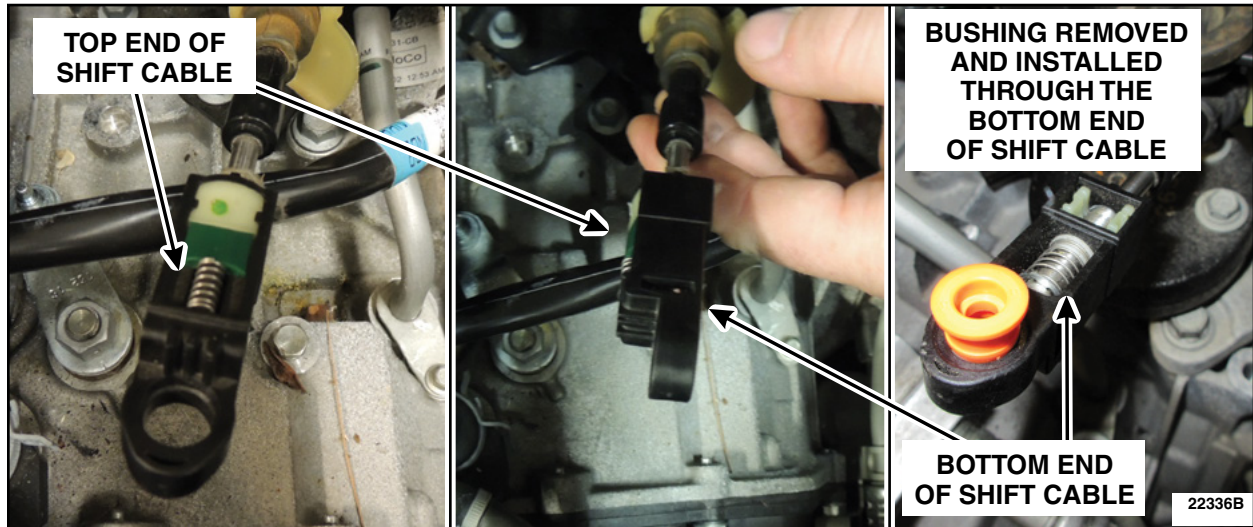

FIGURE 5
NOTE: Selector Lever Cable Bushing Replacement/Orientation. See Figure 5.
- Using a 5mm and a 15mm socket with Straight Jaw Adjustable pliers the bushing can be pressed out of the shifter cable end. The 5mm socket will fit into the small part of the bushing on top, the 15mm will go against the bottom of the shifter cable end, make sure to have socket centered with the bushing to allow clearance of the bushing shoulder as it is being pressed out. See Figures 5 and 6.
- Using a tool such as a Lisle 38350 - Exhaust Hanger Removal plier to press bushing out. By viewing Figure 5 the shoulder of bushing is positioned upward, small end of plier is pressing bushing out. Proceed to Step 10.